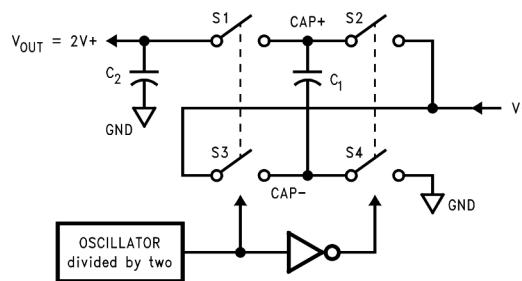

Figure 10. Voltage Doubling Principle
The LM2665 contains four large CMOS switches which are switched in a sequence to double the input supply voltage. Energy transfer and storage are provided by external capacitors. Figure 10 illustrates the voltage conversion scheme. When S_2 and S_4 are closed, C_1 charges to the supply voltage $V+$. During this time interval, switches S_1 and S_3 are open. In the next time interval, S_2 and S_4 are open; at the same time, S_1 and S_3 are closed, the sum of the input voltage $V+$ and the voltage across C_1 gives the $2V+$ output voltage when there is no load. The output voltage drop when a load is added is determined by the parasitic resistance ($R_{DS(on)}$) of the MOSFET switches and the ESR of the capacitors) and the charge transfer loss between capacitors. Details are discussed in Application and Implementation.
- R_{SW} is the sum of the ON resistance of the internal MOSFET switches shown in Figure 10. (1)